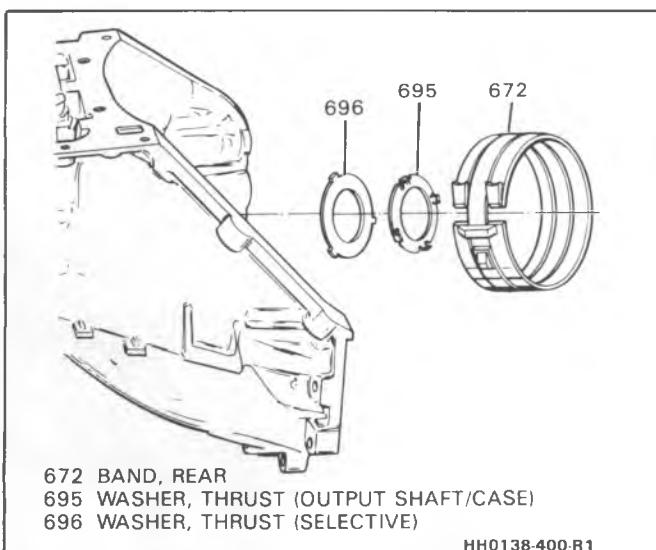

Figure 27 - Removing Rear Band and Selective Thrust Washer
During reassembly, Rear End Play Check must be repeated to verify accuracy of selective thrust washer (696) Figure 27.